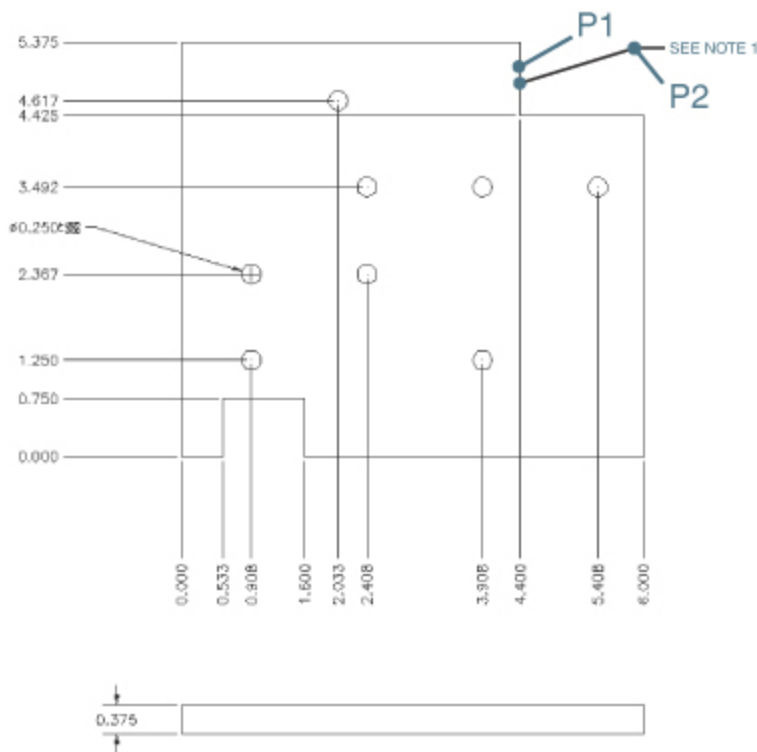

Figure 13-81
- 6 Pick the points P1 and P2 shown in Figure 13-81 and press **<Enter>** to end the point placement. AutoCAD starts the multiline text editor.
- 8 Save your drawing. Your drawing should look like Figure 13-81.